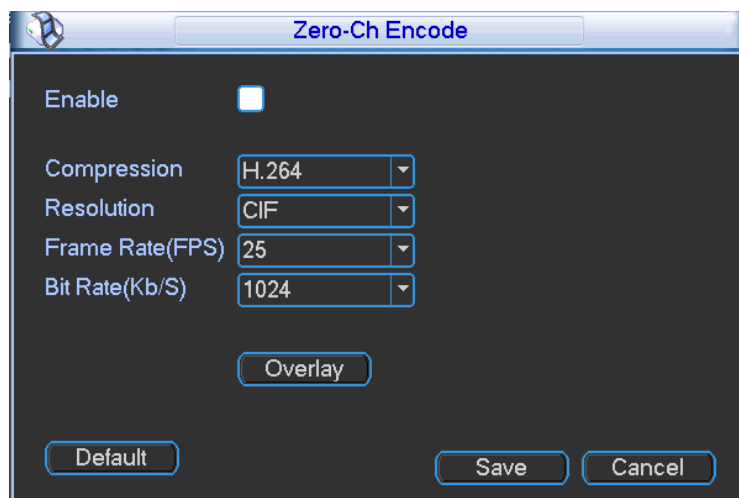

Figure 4-72
- Zero-Channel Encoding (Multiple-Preview) : Click Setup button, you can go to the following interface. See Figure 4-72. Here you can enable and set zero-channel encoding function so that you can view several video sources at one channel.